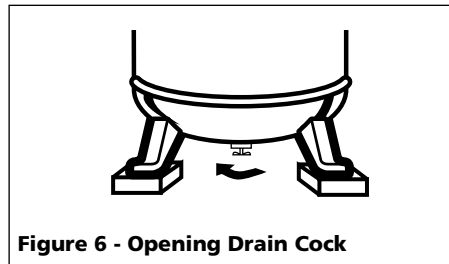

Figure 6 - Opening Drain Cock
1. Open drain cock completely and run the compressor for 60 minutes (See Figure 6).
| Drain Tank (See Figure 6)                          | ●     |        |         |          |